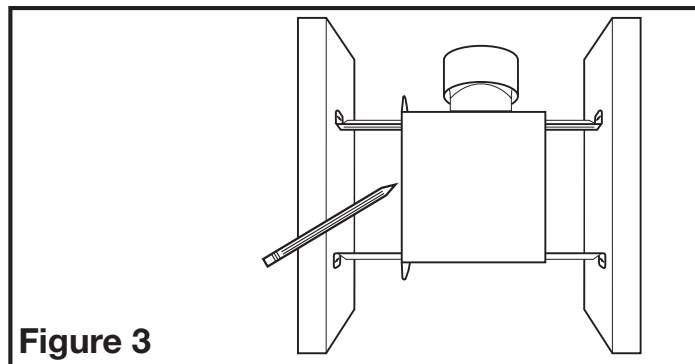

Figure 3
- 1a. **Mounting Rail Installation:** Set housing in position between the joist and trace an outline onto the ceiling material (Figure 3). Set housing aside and cut opening, being careful not to cut or damage any electrical or other hidden utilities. Install the rails on the housing and position the housing in the previously cut hole so that it is flush with the finished ceiling. Secure the ends of the rails to the joists with nails or screws (not provided) (Figure 1).